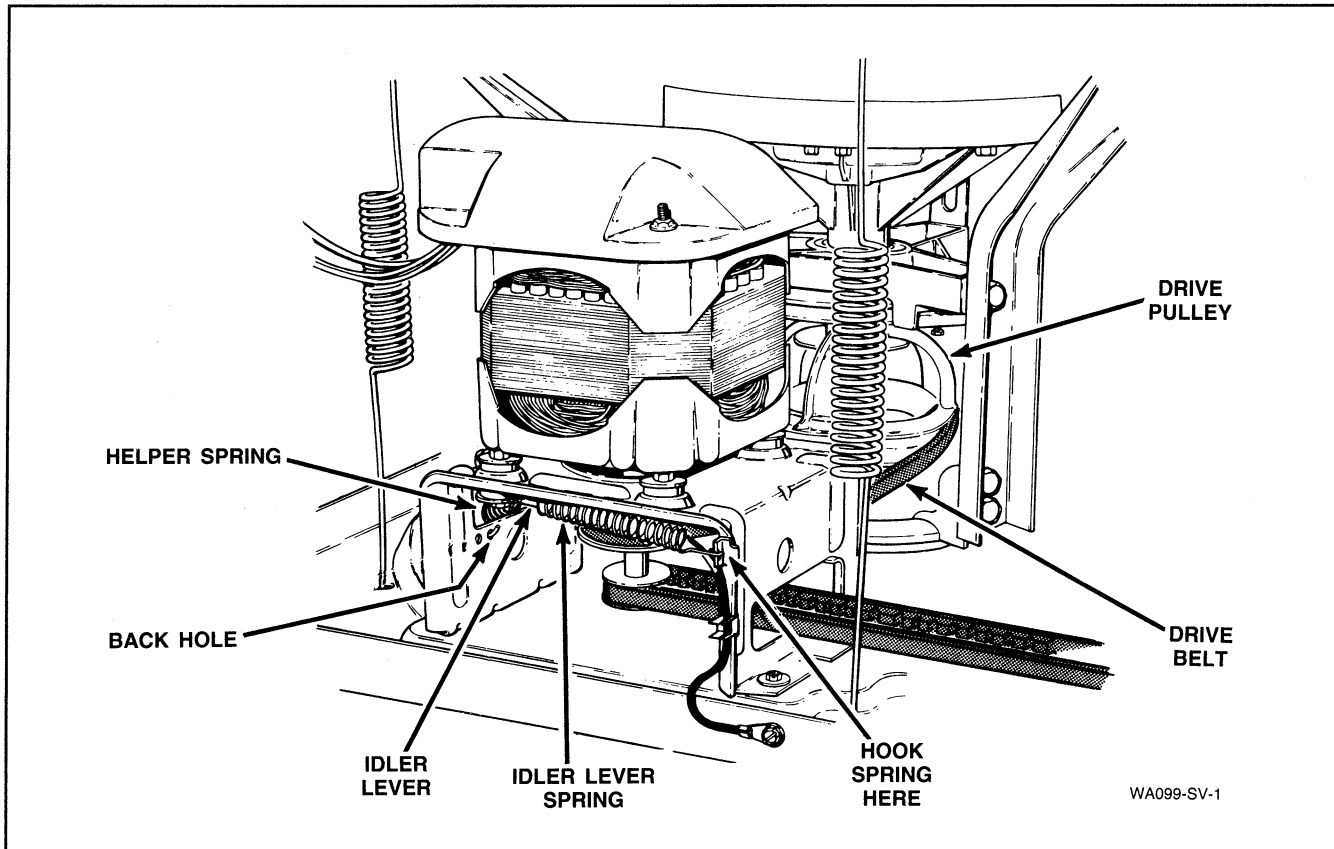

Figure 43
- g. Reconnect idler spring to clip on motor mounting bracket, and helper spring into the back hole in the mounting bracket, *Figure 43*.